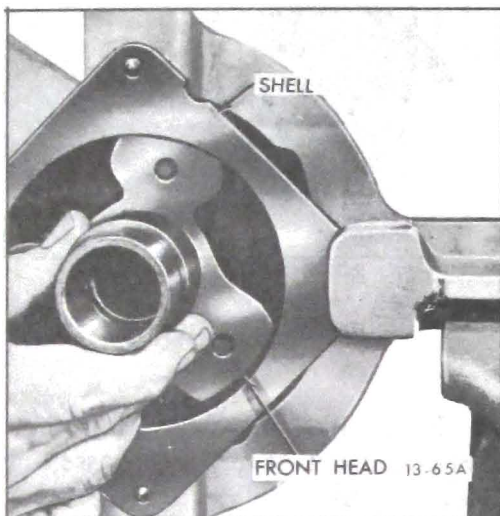

Figure 13-89 Removing Front Head
3. Disassemble front head from shell by tapping front head with a mallet to unseat head, and lifting straight out through rear of shell the front head and shell to head "O" ring (see Figure 13-89). Discard "O" ring.